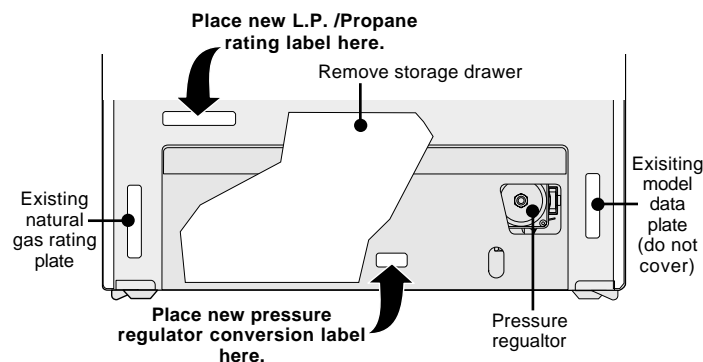

Fig. 19
- Place new L.P. /Propane rating on appliance as shown. Also place the pressure regulator conversion label as shown (See Fig. 19).